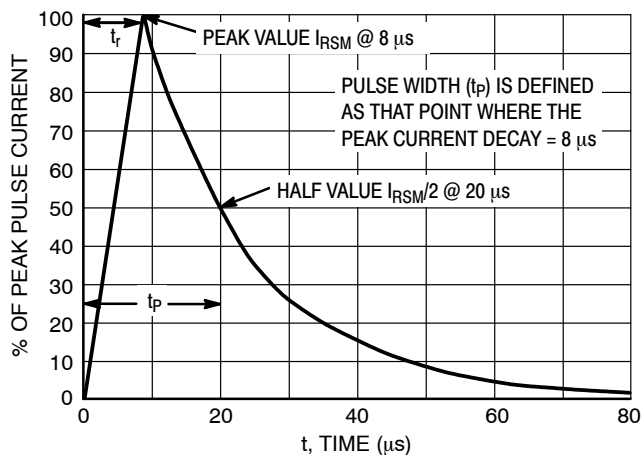

Figure 5. 8 x 20  $\mu$ s Pulse Waveform
4. Surge current waveform per Figure 5.